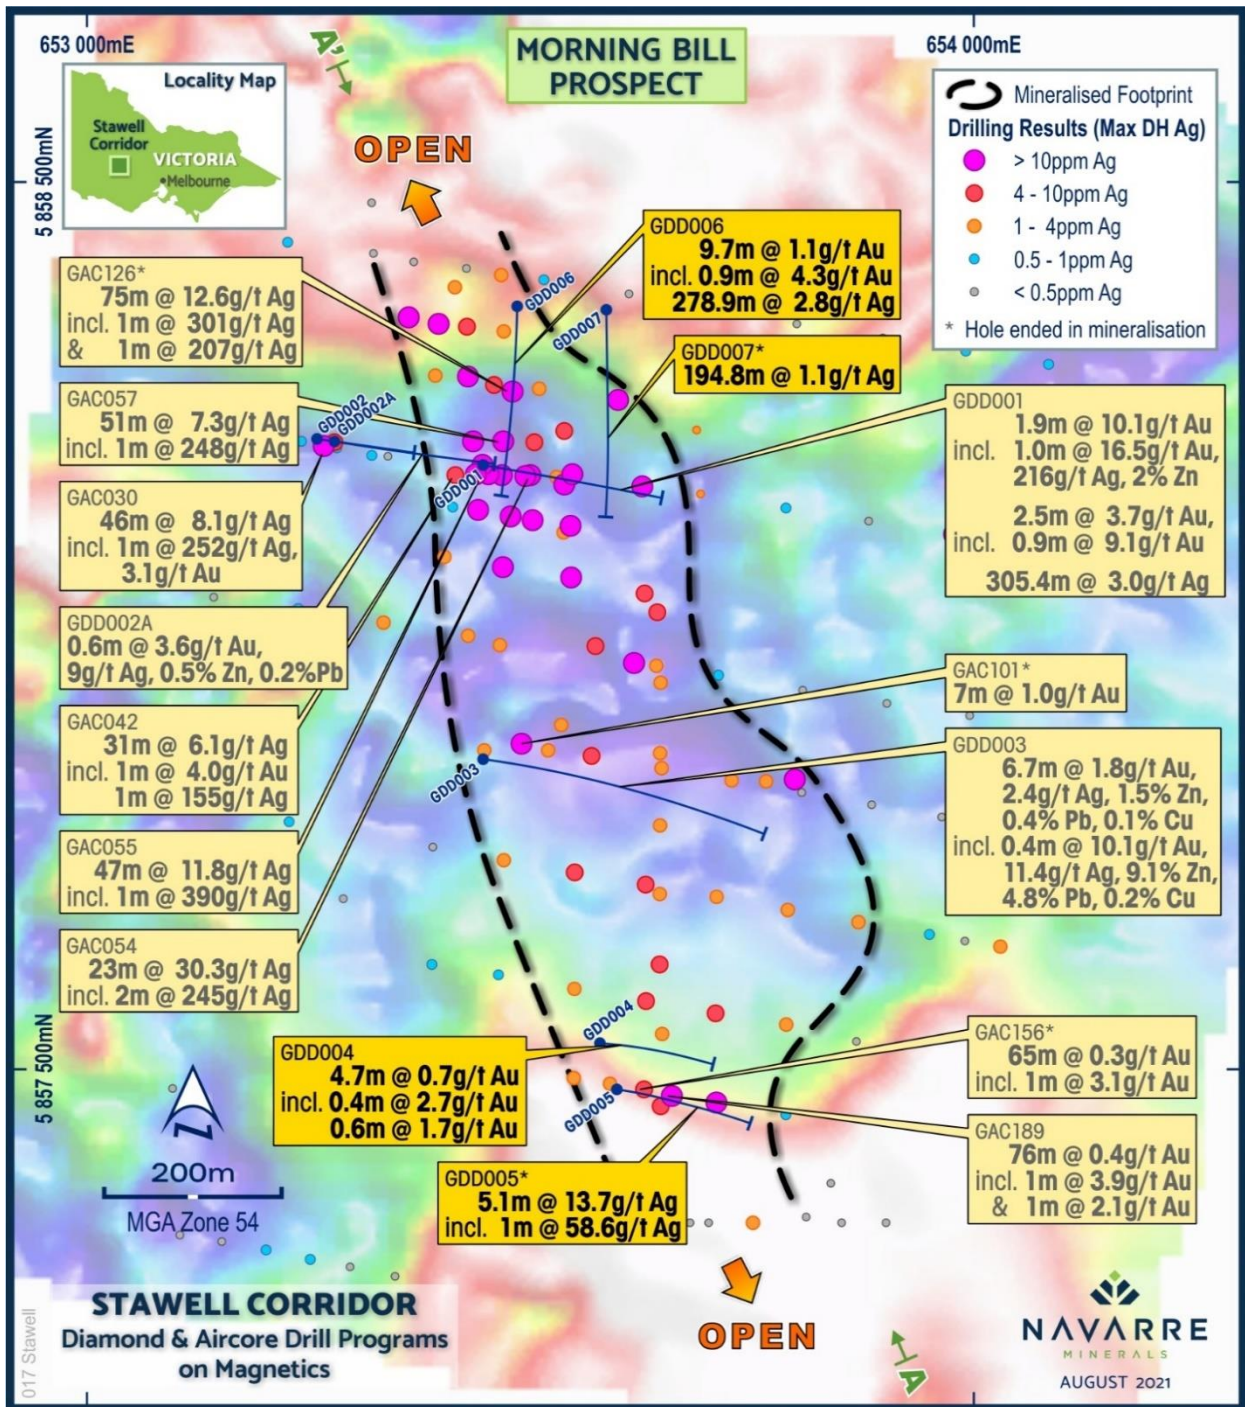

Figure 2: Plan of Morning Bill showing diamond and air core results on magnetic image.
The latest highlight intercepts for the last five diamond core holes of the eight-hole program include (see Tables 1-6 and Figures 2 & 3):
The target area covers a 1,100-metre strike extent and a width of up to approximately 400 metres (Figure 2). This near-surface mineralisation remains open along strike and at depth.
Navarre has completed its first ever diamond core drilling of the Morning Bill prospect (Figures 2 – 5). The program aimed to gauge the vertical extent of the mineralisation, identify key rock types, the mineralisation style, alteration patterns and structural information.
Two of the diamond holes (GDD004 and GDD005) were drilled on the southern end of the prospect, as follow-up to broad zones of gold mineralisation detected in AC drill holes GAC189 (**76m @ 0.4 g/t gold** from 14m to end of hole) and GAC156 (**65m @ 0.3 g/t gold** from 16m to end of hole) (refer ASX announcements on 18 March 2021 & 2 June 2021 and Figures 2 & 3).
One hole (GDD003) was drilled into the centre of the prospect, targeting the widest part of a geophysical magnetic low generated from inversion modelling (Figures 2, 3 & 5).
- the mineralisation remains open at depth and along strike, with drill holes GDD001 and GDD003 returning Morning Bill's best gold, copper, zinc and lead assays to date (see Figures 2 & 3).